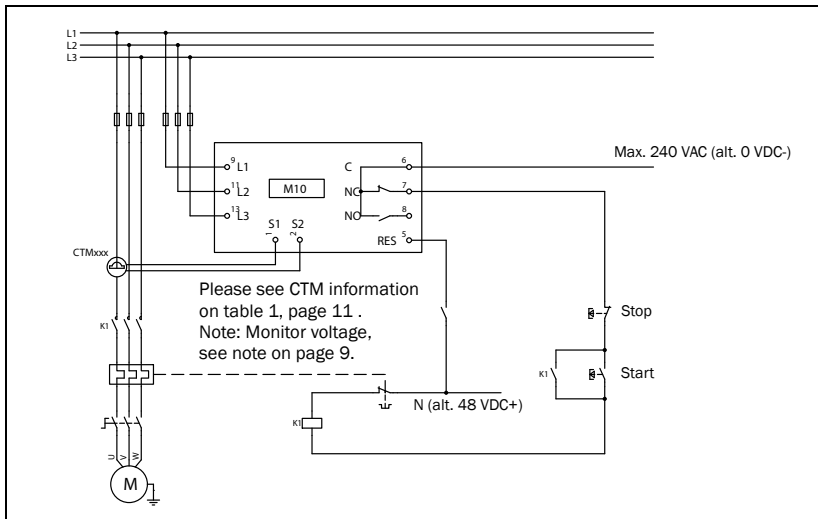
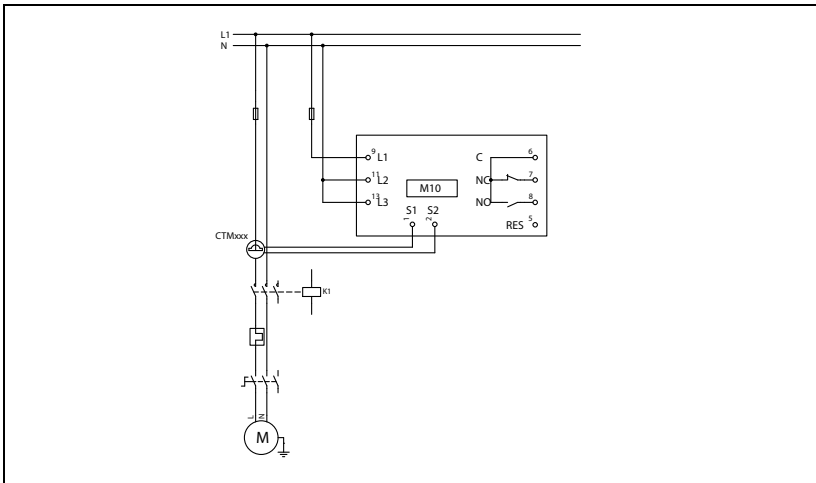

Fig. 1 Standard wiring 3-phase motors (alternatively see Fig. 11, page 29)
Fig. 2 Single-phase wiring example (alternatively see Fig. 10, page 28)
1. Connect the Emotron M10 according to Chapter 5 and Fig. 1.
The following wiring diagram provides an example of how the Emotron M10 can be connected to control the start/stop circuit of a three-phase motor, Fig. 1, page 8. Connections to a single-phase motor are described later in this manual (Fig. 2).
1. The current transformer CTMXXX must be placed in the same phase that is connected to terminal 9, phase L1, see Fig. 1. Failure to follow this requirement will result in the monitor failing to function.
2. For single-phase connection see Fig. 2, page 9.
When using DC voltage, terminal 6 should be connected to negative polarity (ground) and terminal 5 to positive polarity (max. 48 VDC), see Fig. 1, page 8. See also the alternative auxiliary circuit Fig. 11, page 29.
**NOTE: The current transformer (CTMxxx) must be placed in the same phase that is connected to terminal 9, phase L1, see Fig. 1. Make sure that the Emotron M10 voltage range e.g. 3x100-600 VAC matches the connected motor/line voltage, e.g. 3x400V.**
If the START/STOP is connected as per Fig. 1, it is recommended that terminals 6 and 7 be bypassed during settings. After the settings are completed the bypass must be taken out.
This wiring example shows the alternative connection to be made with regard to a single-phase connection. Refer to Fig. 1 for the remaining wiring.